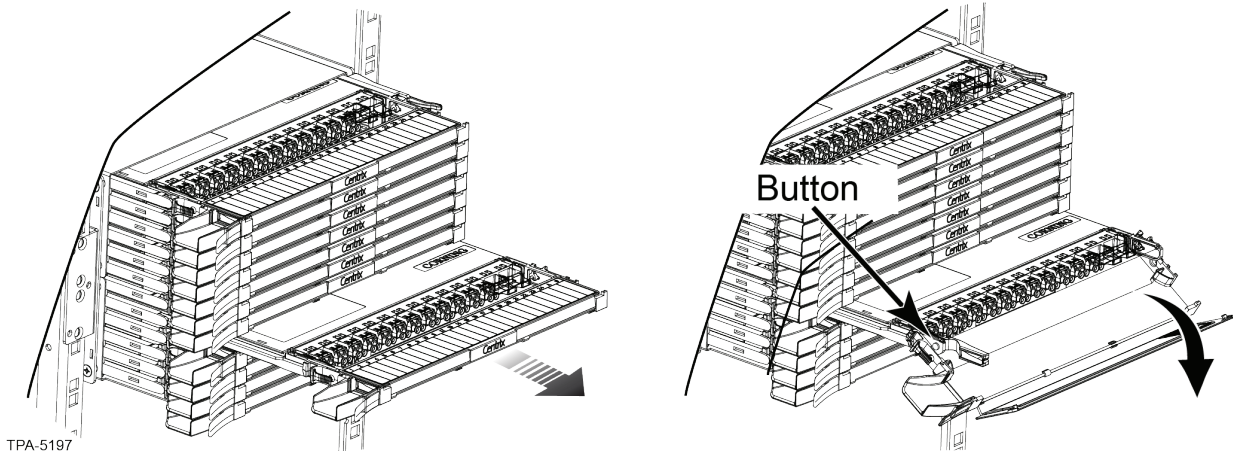

Figure 8
Step 5: Open the module drop handle to access the MTP® adapters (Figure 8).